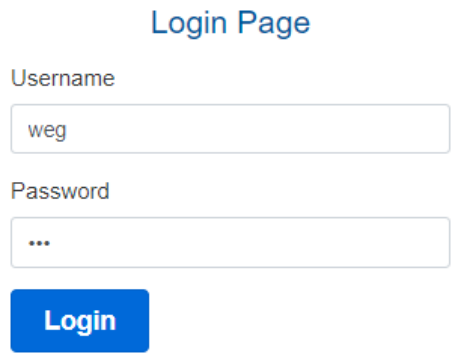

Figure 6.6: Authenticating to the Drive Scan
Step 3 If you are configuring Drive Scan via Ethernet cable and the login page, shown in Figure 6.6, does not appear, reset your computer IP address to the same IP range as the Drive Scan. This manual has an appendix (Chapter A) with instructions regarding this procedure for Windows 10.
If the login page, shown in Figure 6.6, does not appear, reset your computer IP address to the same IP range as the Drive Scan. This manual has an appendix (Chapter A) with instructions regarding this procedure for Windows 10.